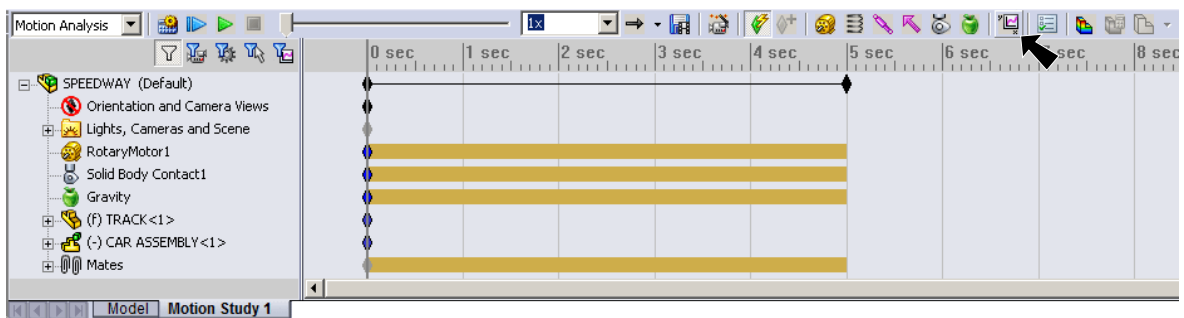

Fig. 16
Step 2. Click **Results and Plots**  on the Motion Manager toolbar, **Fig. 16**.